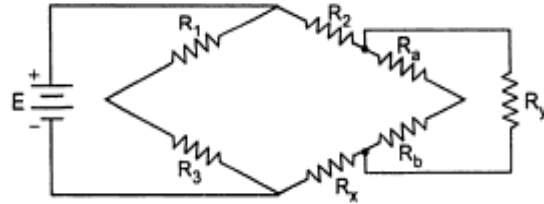

Fig.1
- Q.3 a. A Kelvin's bridge is shown in Fig.1 below, the ratio of R_a to R_b is 1200 ohms $R_1=10$ ohms and $R_1=0.5R_2$. Calculate unknown resistance R_x .